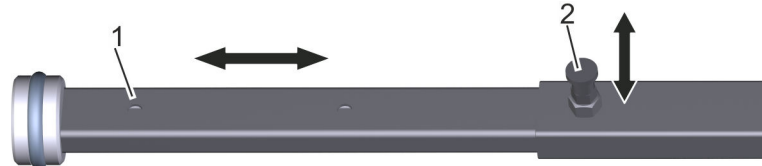

Fig. 35: Extending the reaction arm
11. ➤ Plug the bottom part of the reaction arm into the middle part. To do so, pull the locking bolt (Fig. 35/2), push the bottom part into the middle part as far as you wish, and let the locking bolt (Fig. 35/2) lock into place in one of the four lock-in holes (Fig. 35/1).